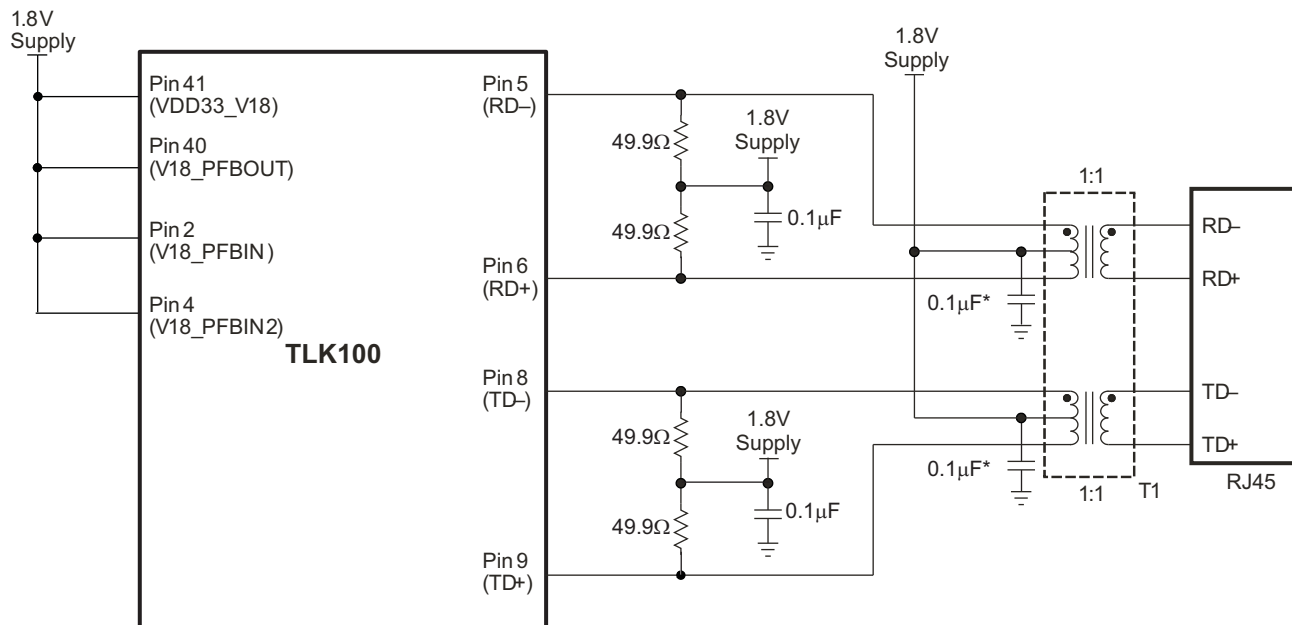

Figure 2-2. Power Scheme for Operation With External 1.8V Supply
- When an external 1.8V rail is available – Connect the external 1.8V to all following TLK100 pins to enable proper operation: V18_PFBOUT (pin 40), V18_PFBIN1 (pin 2), V18_PFBIN2 (pin 4) and VDD33_V18 (pin 41). In addition, connect the 1.8V rail to the transformer center tap to further reduce the transmission power, as shown in Figure 2-2: